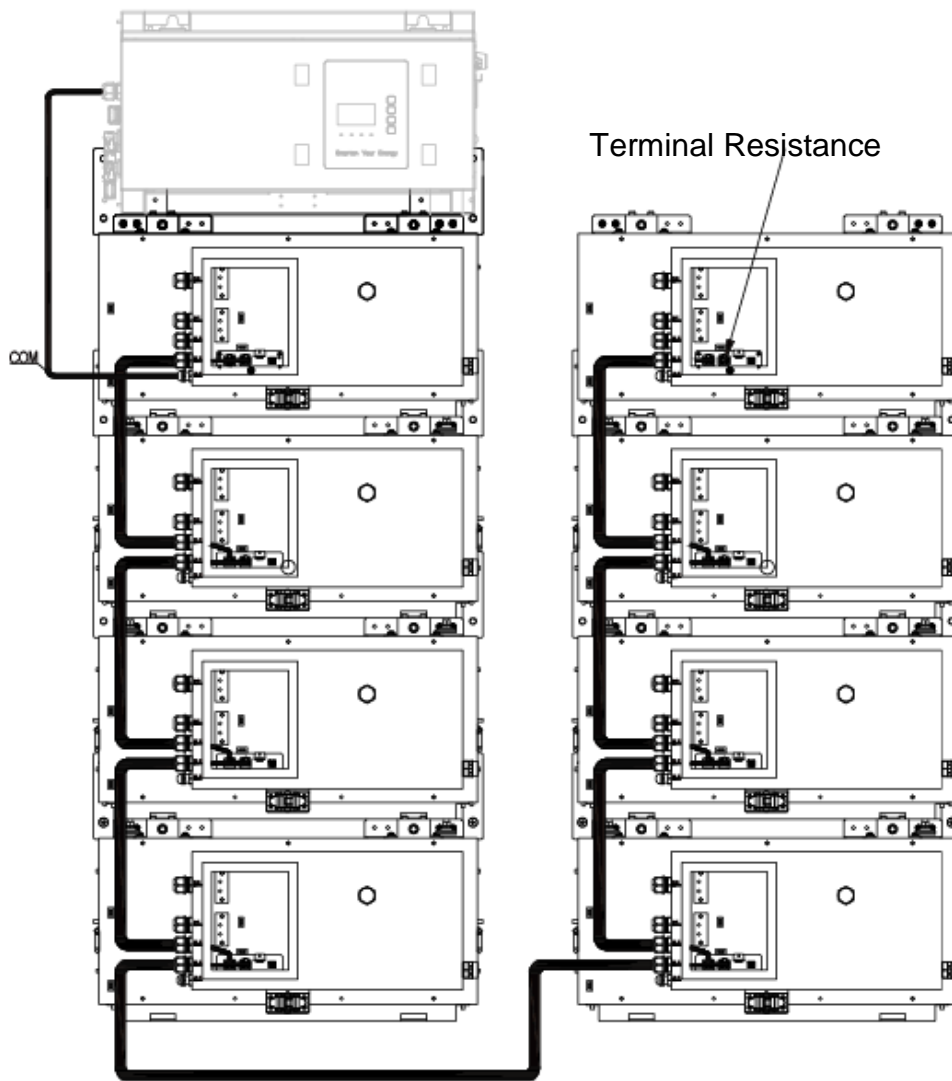

Figure 24 Connection of Communication Cables on Battery Side
Step 7: Please connect the communication cables as referred in Figure 24.